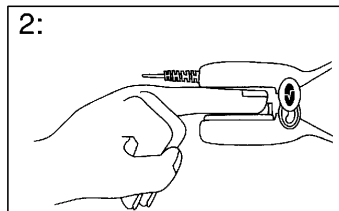

Fig. 19 Orientation of emitter and detector
2. The hinged tabs of the sensor should open to evenly distribute the grip of the sensor along the length of the finger (Fig. 19). Check position of sensor to verify correct positioning. Complete coverage of the detector window is needed to ensure accurate data.